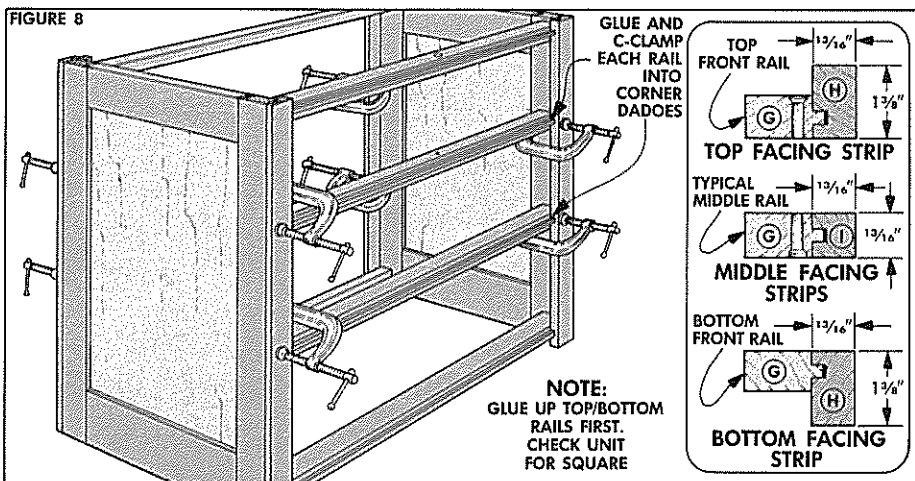

FIGURE 9
Next, drill a countersunk shank hole in the two top front rails, see Fig. 7. These holes are used later to screw the drawer divider (J) in place, refer to Fig. 9.
Then cut all the facing strips to length to fit between the front stiles and glue them in place, see Fig. 9.
**DRAWER DIVIDER.** A vertical divider (J) is added to divide the two top drawers, see Fig. 9. Cut the divider  $1\frac{1}{2}$ " wide and to length to fit the opening between the top two facing strips. (Measure at one end rather than the middle in case the rails are bowed.) Then screw it in place so it's centered on the opening.